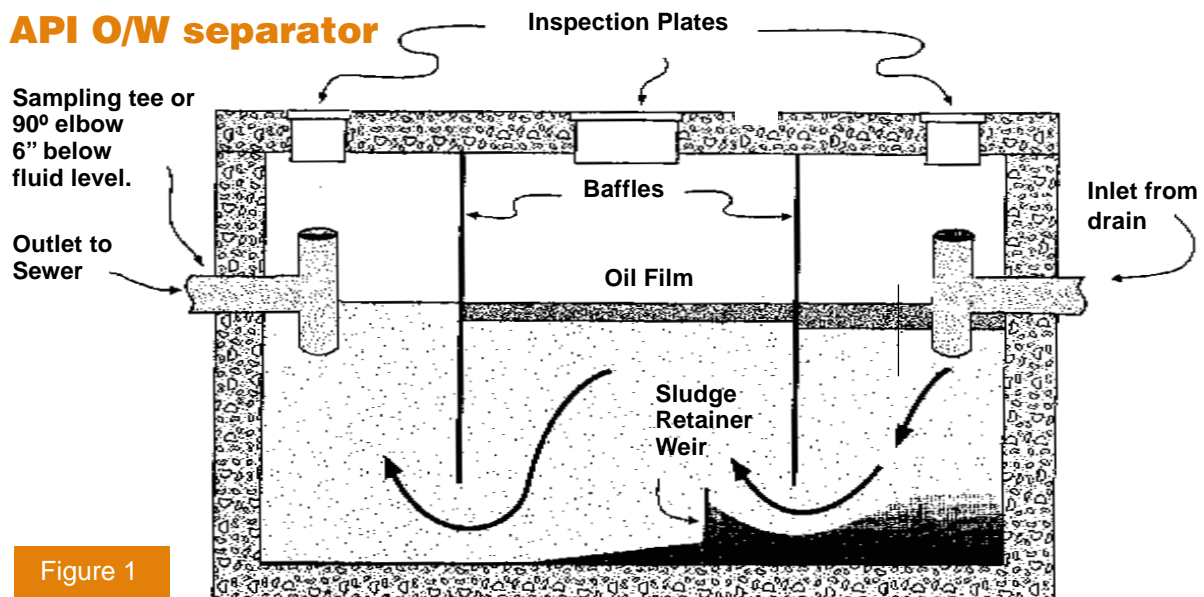

Figure 1
Standard baffle oil/water (O/W) separators are large-capacity, underground cement vaults installed between a drain and the connecting sewer pipe. These vaults are designed with baffles to trap sediments and retain floating oils. The large capacity of the vaults slows down the wastewater, allowing oil to float to the surface and solid material to settle out (Figure 1).
- Drawing of the oil/water separator with capacities and dimensions. The outlet to the sewer must have a sampling "T" installed. (See Figure 1.)